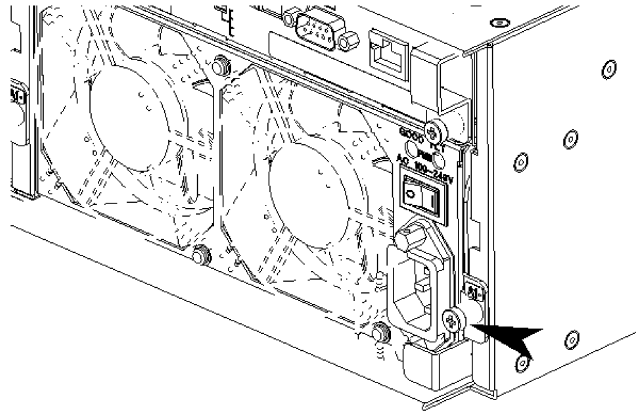

Figure 3-18. Loosening the Power Supply Ejector Set Screw
4. Loosen the ejector set screw of the faulty power supply. See Figure 3-18.